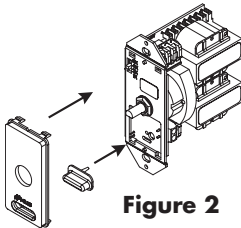

Figure 2
4. Locate the new Decora-style insert. Hold the volume control facing you. Insert the two bottom tabs into the bottom slots first, then the two tabs on the top (see **Figure 2**). Press carefully on the front of the insert to snap it into place.